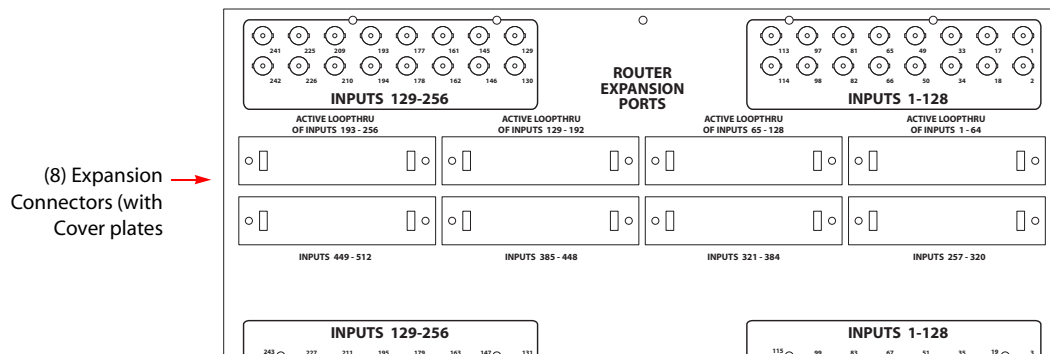

Figure 3-6. Expansion Connections for Connecting Two NV8256-Plus Routers
- 1 Locate the signal expansion connections on the rear of the two router frames being connected, as shown in Figure 3-6. The routers should be located close together.